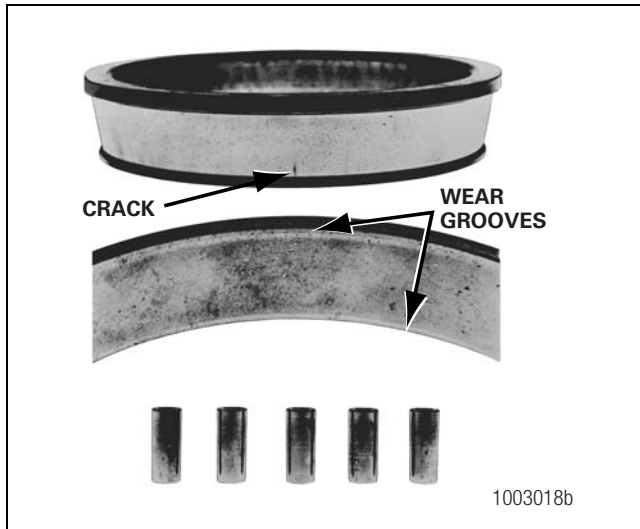

Figure 6.2
- There is a visible roller groove in the cup or cone inner race surfaces. The groove can be seen at the small- or large-diameter end of both parts. Figure 6.2.
- There are deep cracks or breaks in the cup, cone inner race or roller surfaces. Figure 6.2.